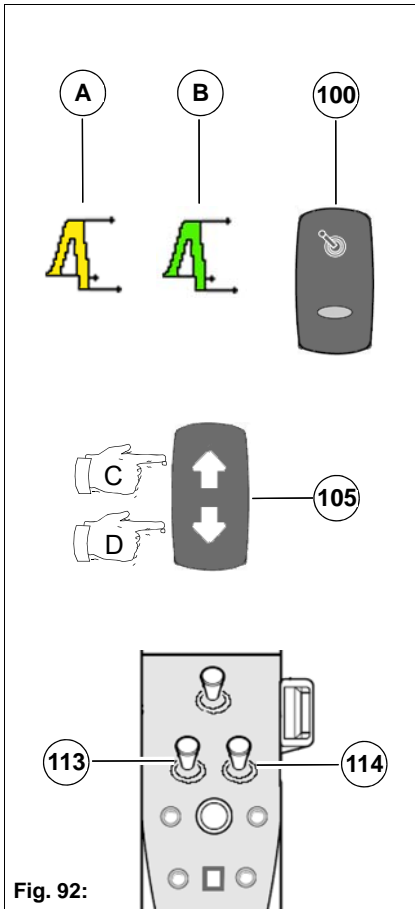

Fig. 92:
- Raise: Press the tip switch on symbol **Fig. 92-C**.
- Lower: Press the tip switch on symbol **Fig. 92-D**.
- The green symbol **Fig. 92-B** appears in the multifunction display.